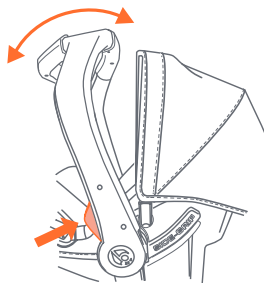

Fig. 27-2
- Slowly rotate the handle to the desired position. The buttons should pop out and the handle should automatically lock into the new position (Fig. 27-2).